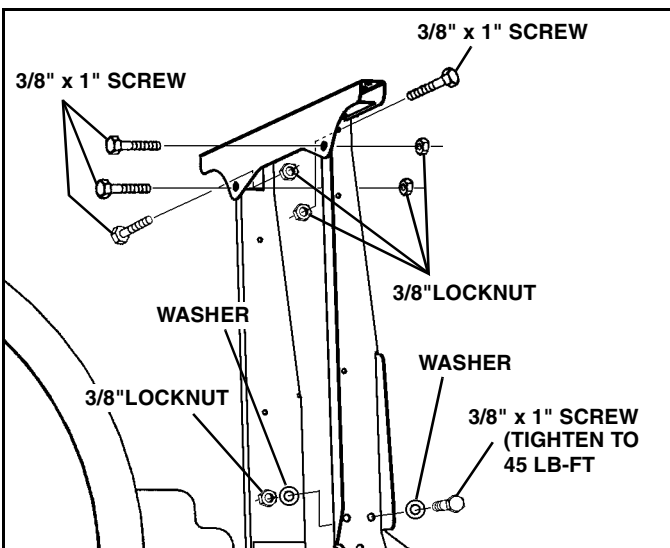

Figure 1-15
9. Remove left and right light support from power pack carton. Secure each light bar support to lift/light bar with (4) 3/8" x 1" screws, (8) washers and (4) lock nuts from the light bar parts bag, part number 96106089. Do not tighten at this time. (See Figure 1-15).
10. Secure light bar to supports with (4) 3/8" x 1" screws and lock nuts. Align light bar supports to vertical position and tighten all light bar hardware. Tighten eight lower screws to 45 lb-ft. (See Figure 1-15).